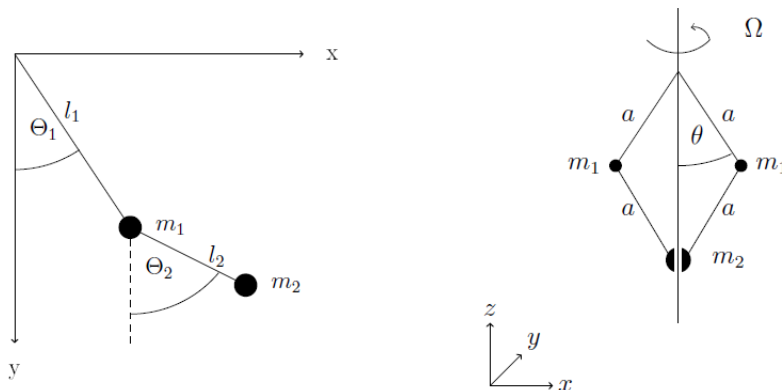

Figure 3: Double pendulum and centrifugal governor
- (ii) **the double pendulum in the plane:** Do a similar analysis with the planar double pendulum as shown in fig. 3.
- (iii) [optional] **the centrifugal governor:** Do a similar analysis for the centrifugal governor (fig. 3), and determine the equilibrium solutions ($\theta = \text{const}$).